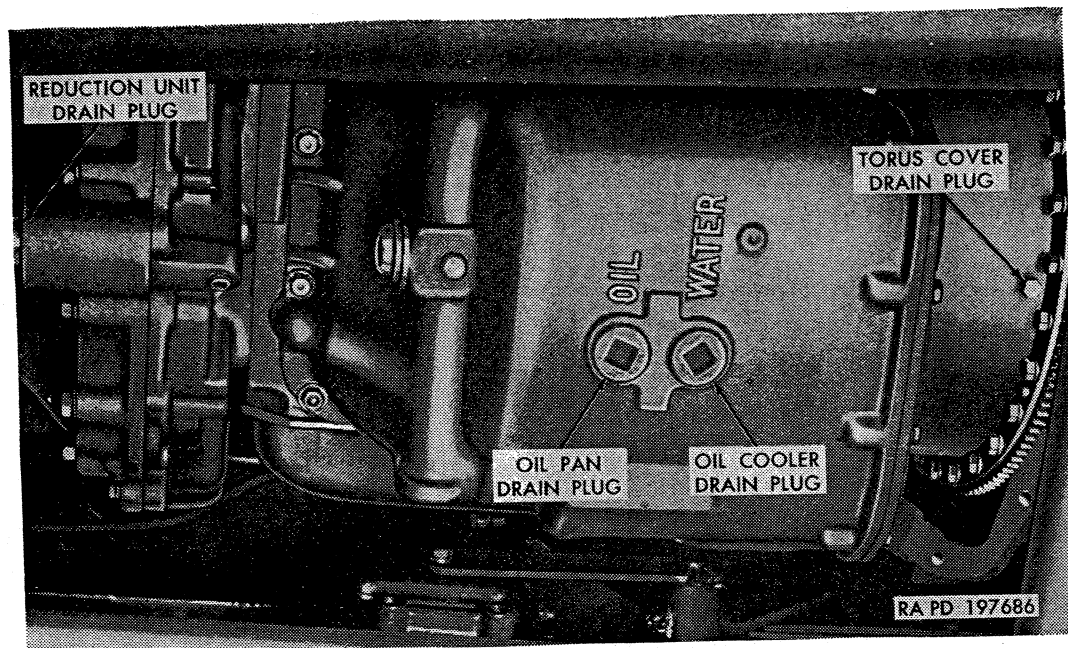

Figure 186. Transmission oil and water drain plugs installed—flywheel housing cover removed.
*d. Draining Transmission Oil* (fig. 186).
- (1) *Drain fluid coupling.* Remove eight cap screws and lock-washers attaching flywheel housing cover to flywheel housing; then remove cover. Turn engine flywheel until torus cover drain plug is at lowest point; then remove torus cover drain plug. Discard plug gasket.
- (2) *Drain oil pan.* Remove transmission oil pan drain plug from bottom of oil pan. Discard plug gasket.
- (1) Check for loose oil pan to transmission case attaching cap screws and nuts. If found loose, tighten cap screws and nuts to 10 to 13 pound-feet torque. If leakage at this point continues, cause may be defective oil-pan-to-transmission-case gasket. Replace gasket as in (a) through (k) below.
- (a) Remove drain plug at bottom of transmission oil pan marked WATER and drain water from transmission oil cooler in oil pan. Refer to figure 186.
- (b) Remove magnetic oil pan drain plug from transmission oil pan (plug is marked OIL) and drain oil from transmission oil pan into a clean receptacle. Refer to figure 186.
- (2) If leakage is found at transmission oil pan drain plug, check to see if plug is loose. Tighten plug to 35 to 45 pound-feet torque. If leakage continues, remove drain plug and gasket from oil pan. Discard gasket. Install new gasket on drain plug; then install plug in oil pan. Tighten plug to 35 to 45 pound-feet torque.